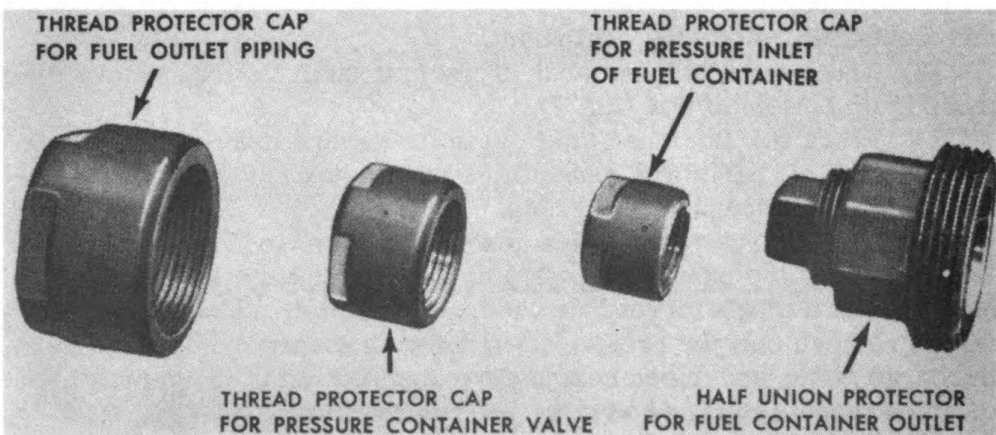
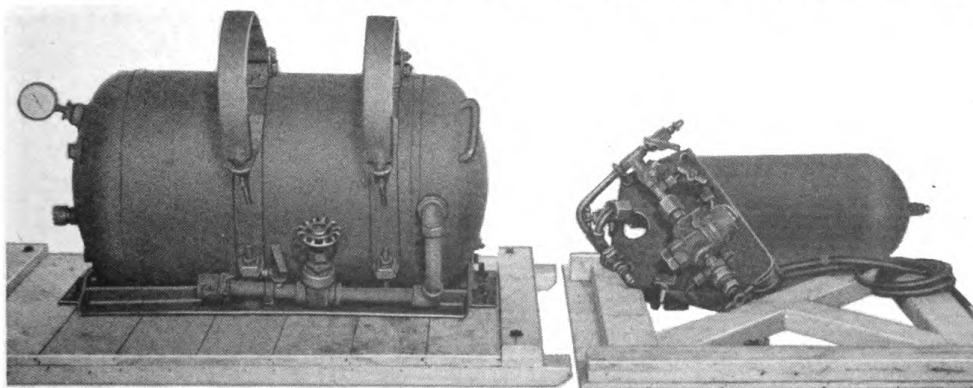

Fig. 8. Thread protector caps and half union protector.
Fig. 10. Pressure container, loop, pressure line plate, bleed hose, and discharge hose removed from sponson fuel group.
(3) Remove the jam nut and the nut from each pressure container strap. Do not push bolts entirely out of holes.
(4) Attach thread protector cap (fig. 8) to pressure container valve outlet.
(8) Disconnect discharge hose from safety head by applying wrench to hex nut of union.
(9) A synthetic rubber washer separates the two metal surfaces in seat of union between fuel container and pressure line. Make certain this washer is present. Using wrench, remove the three stud bolts and the lock washers which hold pressure line plate to fuel container. Remove pressure line plate (fig. 10). With synthetic rubber washer in position, screw thread protector cap (fig. 8) on pressure inlet threads of fuel container.
(10) Remove fuel line clamp from fuel outlet piping by unscrewing two screws with screw driver.
(11) Using two wrenches, hold the back wrench steady and pull front wrench clockwise to loosen hex nut on union between fuel container and fuel outlet piping. Attach thread protector to outlet pipe (fig. 8). At-
tach half union protector to fuel outlet (fig. 8). Tighten union nut to protect seat of union.